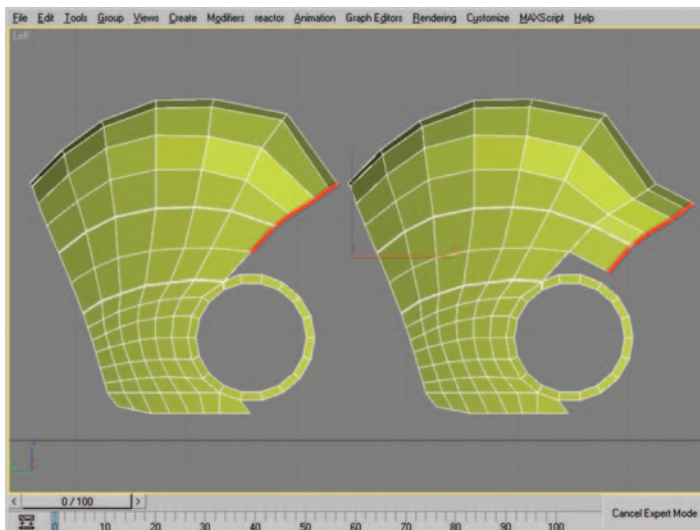

Figure 8.28 Edge selection before and after performing shift-drag.
31. At the Edge subobject level, select the five edges seen in Figure 8.28 (left) and shift-drag them to form additional polygons that follow the lines of the blueprint image. Figure 8.28 (right) shows the mesh after performing the shift-drag.